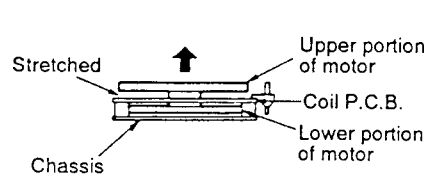

Fig. 4
- Before installing the belt to the motor, insert the unmagnetized sheet to the clearance between chassis and lower portion of motor, and then push the upper portion of motor in the direction of arrow. Put the belt into the clearance between upper portion of motor and coil P.C.B. (Refer to Fig. 4 and 5.)